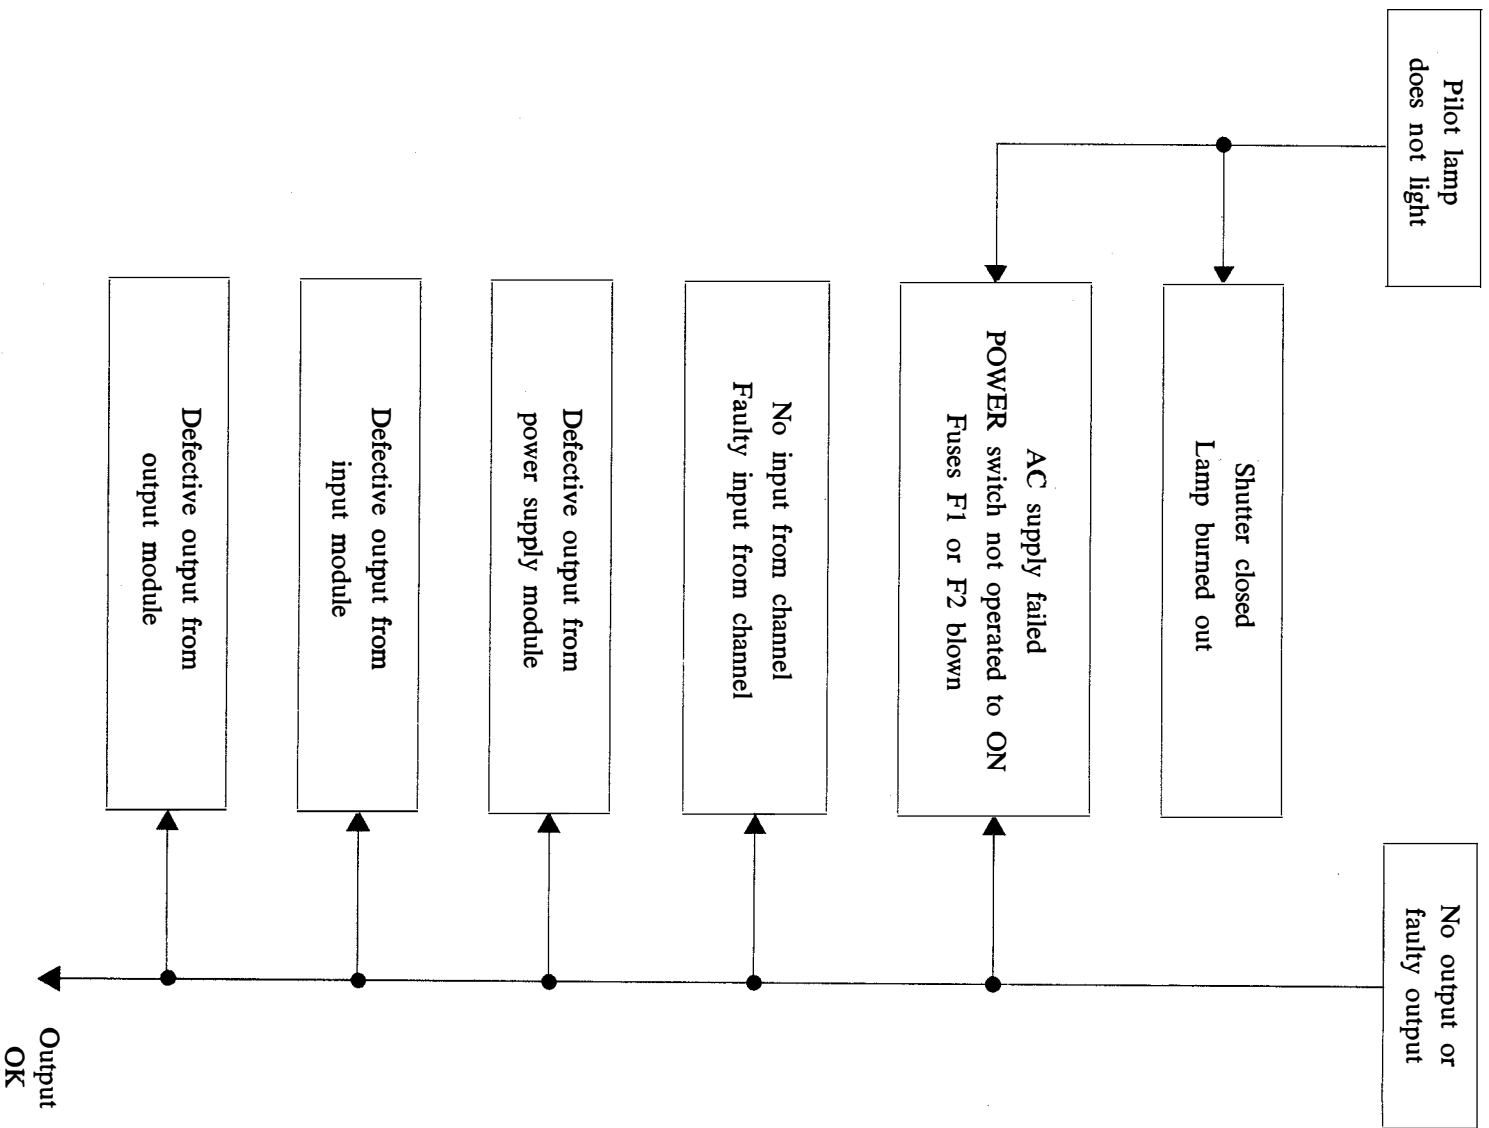
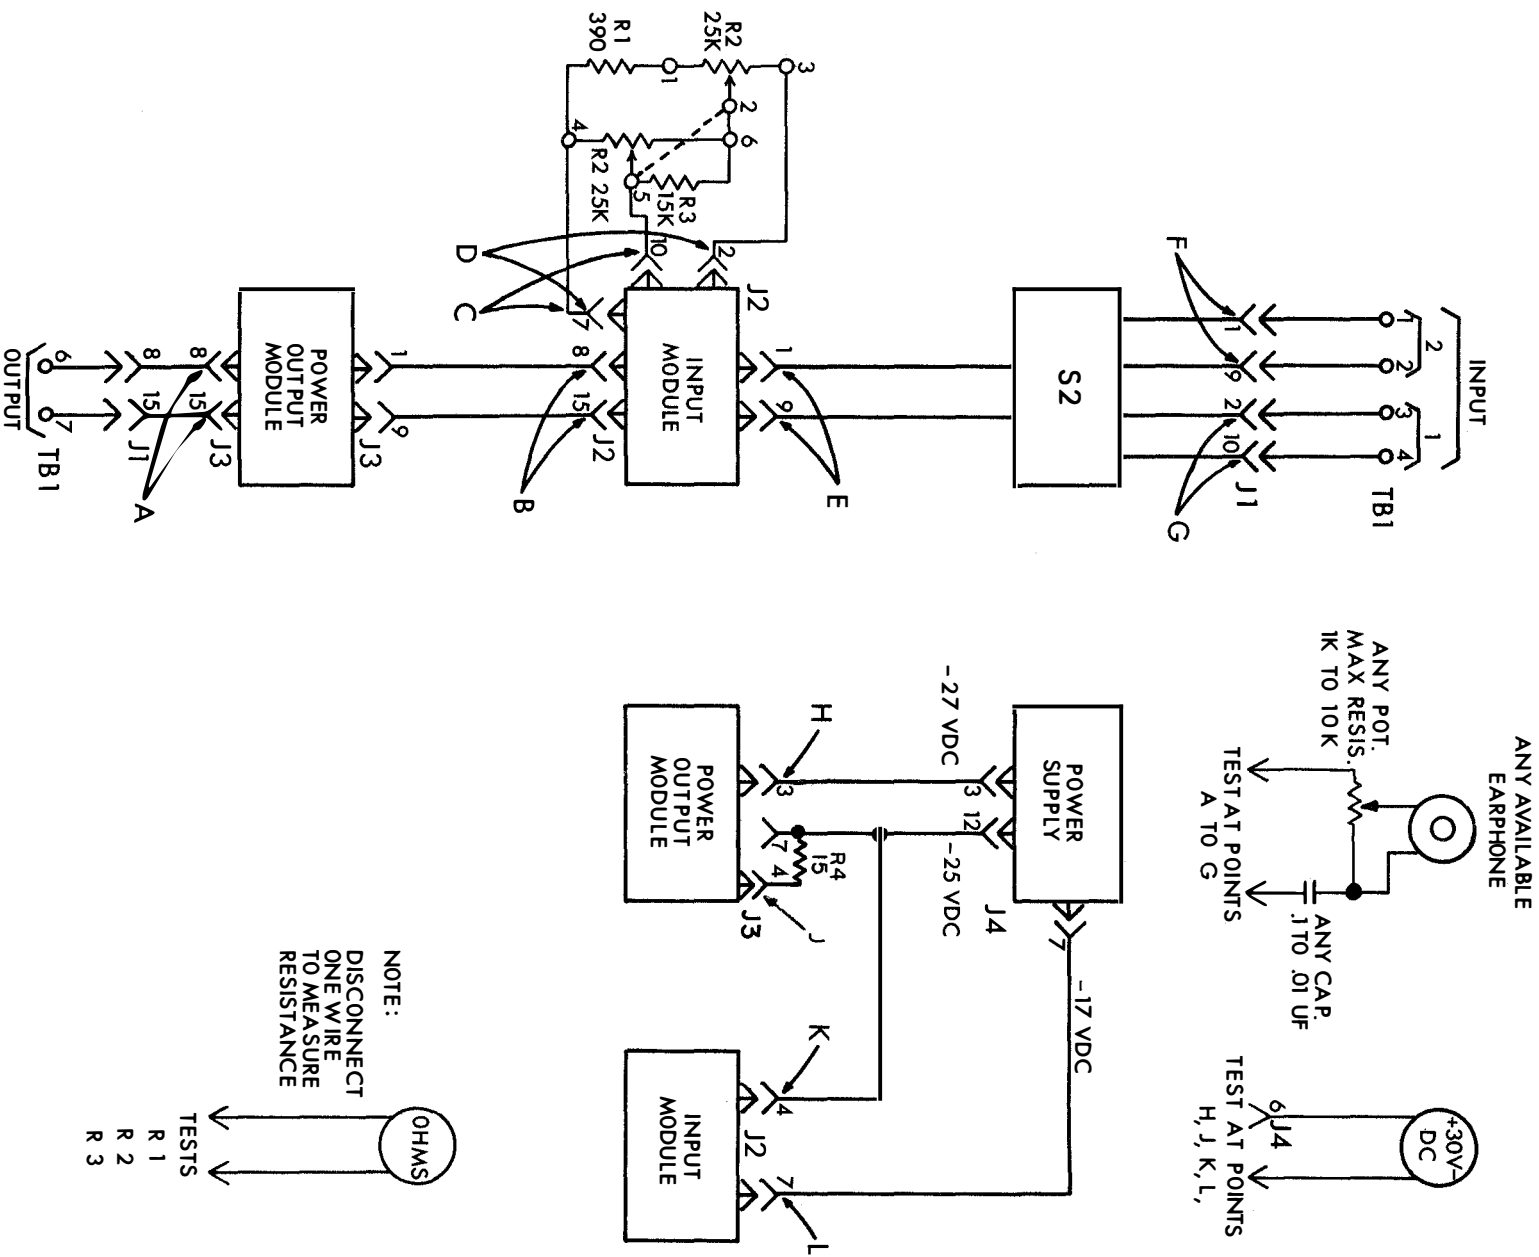

Figure 4-2. Trouble shooting diagram.
Figure 4-3. Test point diagram.
a. The trouble shooting diagram is figure 4-2 and the test points are shown in figure 4-3. Perform the listening tests as indicated in figure 4-3, at points A to G, with the earphone. Note absence of signals, weak signals or distortion. Make dc voltage tests with multimeter AN/PSM-4 or equivalent, at points H, J, K and L to detect incorrect dc voltages to ground. Make resistance tests with the multimeter if it is necessary to check values of resistors R1, R2 or R3.
1. Earphone connected as shown in figure 4-3.